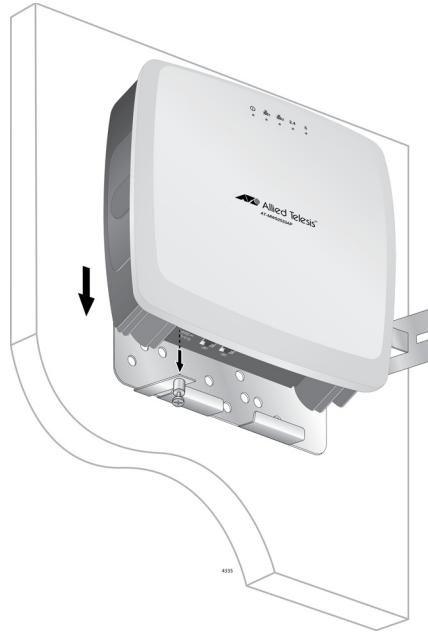

Figure 11. Sliding the Access Point to Secure the Mounting Base Plate
6. Slide the access point to lock the necks of the mounting base plate pins in the slots, as shown in Figure 11 on page 37.